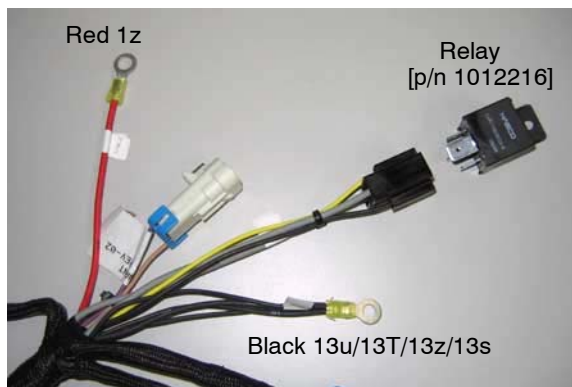

Fig. 4
2. Starting from inside the circuit breaker box, connect the following *ec-H2O* harness wires as described in steps 3, 4 and 5 (Figure 4).
4. Using Nut [p/n 09739], attach Relay [p/n 1012216] to the mounting stud located inside the circuit breaker box (Figure 6). Connect *ec-H2O* harness wire to relay (See Figure 4 for relay reference).